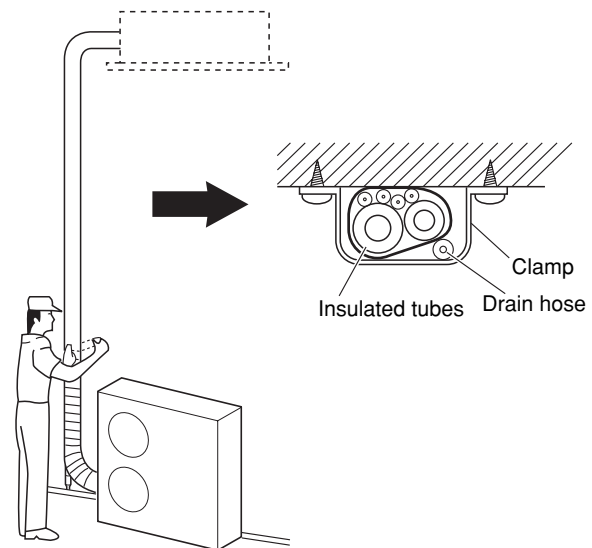

Fig. 6-10
- (1) At this time, the refrigerant tubes (and electrical wiring if local codes permit) should be taped together with armoring tape in 1 bundle. To prevent the condensation from overflowing the drain pan, keep the drain hose separate from the refrigerant tubing.
- (2) Wrap the armoring tape from the bottom of the outdoor unit to the top of the tubing where it enters the wall. As you wrap the tubing, overlap half of each previous tape turn.
- (3) Clamp the tubing bundle to the wall, using 1 clamp approx. each ft. (Fig. 6-10)